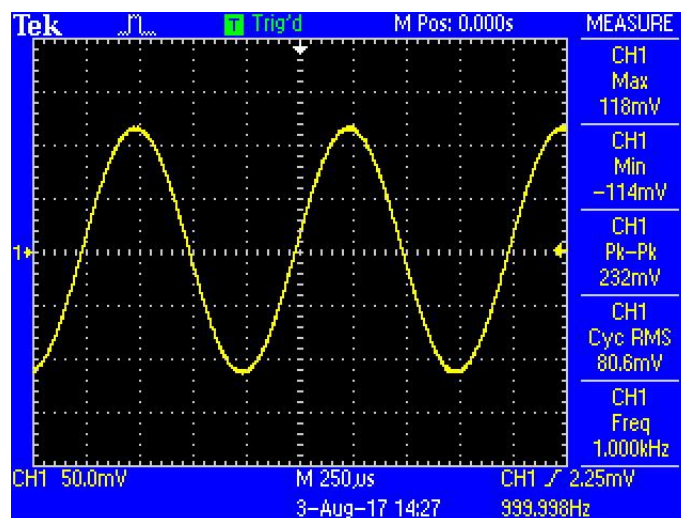

Fig.88 Measured Signal Parameters Diagram
3. Turn on the function signal generator and set “Function: Sine”, “Amplitude: 80mVrms”, “Frequency: 1kHz”, “Output Impedance: High Z”, as is shown in Fig.88.